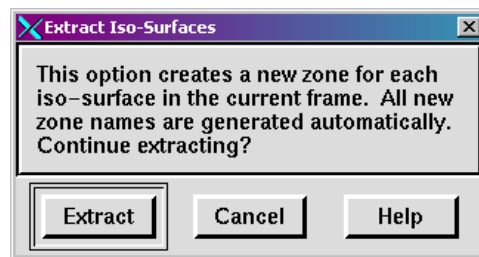

Figure 21-10. The Extract Iso-Surfaces dialog.
2. From the Data menu, choose Extract, then choose Iso-Surfaces. The Extract Iso-Surfaces dialog appears, as shown in Figure 21-10.